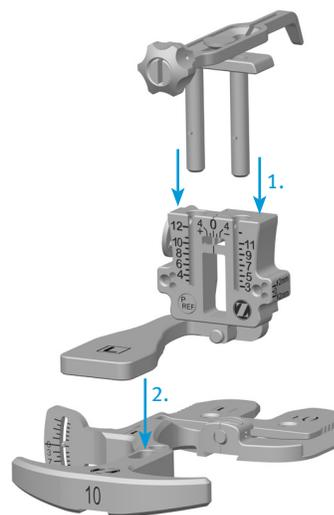

Fig. 34
- Assemble *Zimmer FuZion* Sizer. Attach the *Zimmer FuZion* Sizer to the proximal face of the *Zimmer FuZion* Spacer Block. The wide flat distal face of the *Zimmer FuZion* Sizer will magnetically attach to the *Zimmer FuZion* Spacer Block (Fig. 34).